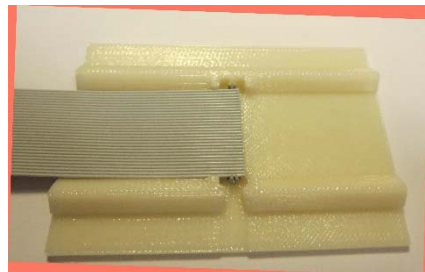

Figure 7
- 4.2 Place the properly sized ribbon cable into the cover in the locator plate. (See Figure 7)